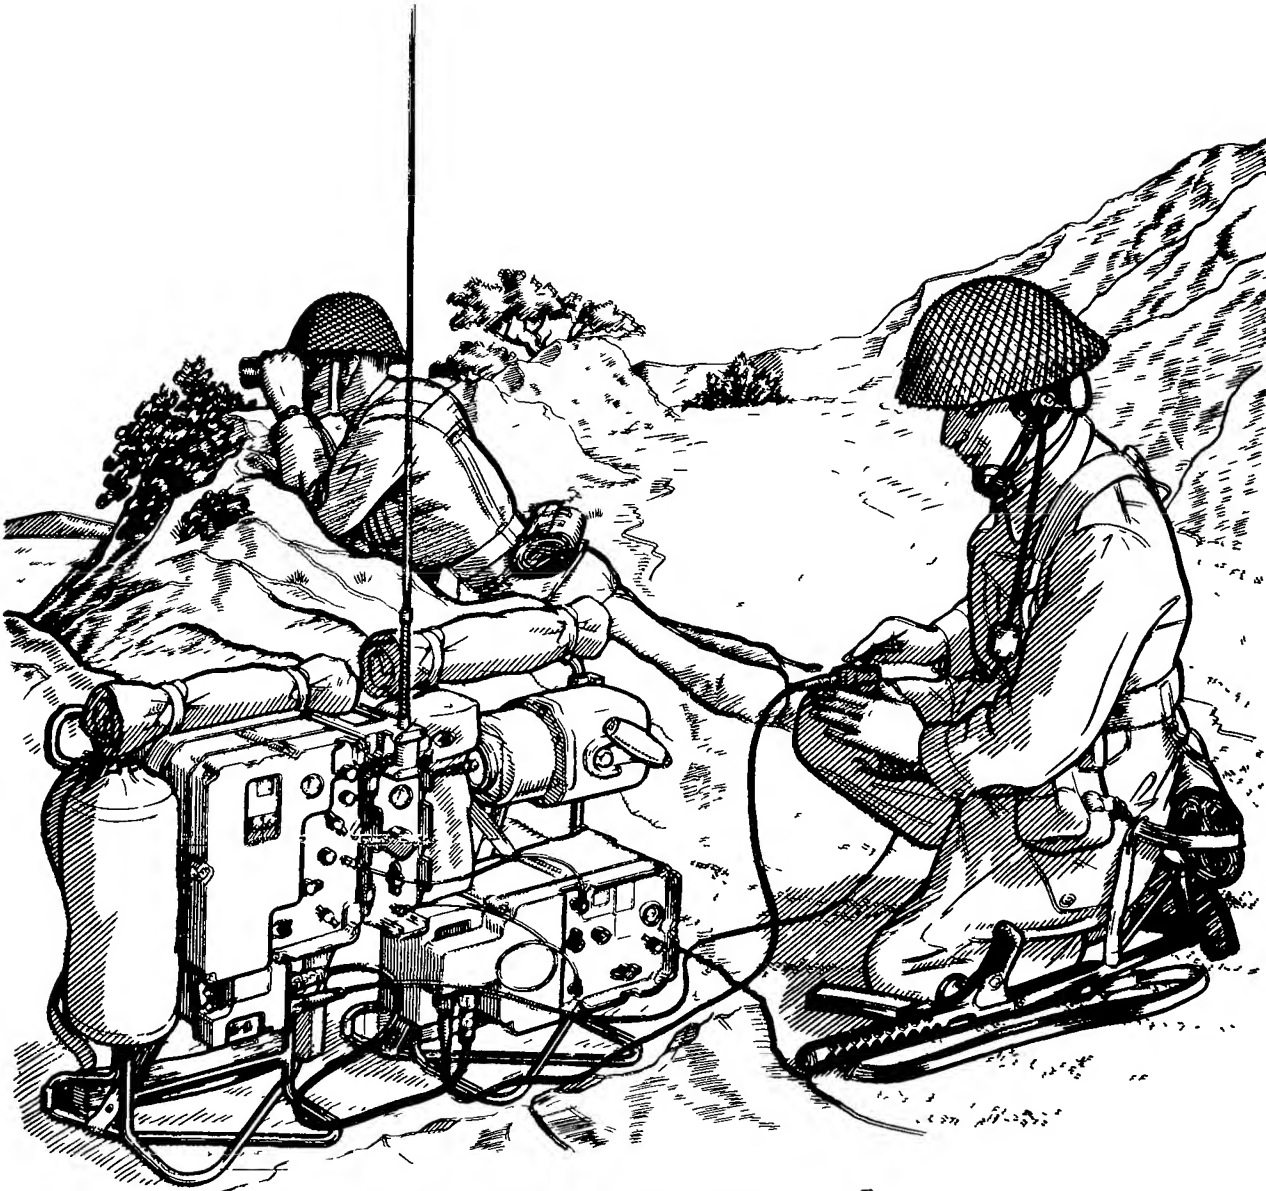

FIG. 14 HIGH POWER GROUND STATION
(1) Assembly instructions
- (a) Fig. 14 shows an HP ground station consisting of an LP manpack station and a manpack No. 2. Place the two manpack frames on the ground side by side. Ensure that there are charged batteries in both the TR A13 and the RF amplifier.
- (d) Connect the RF amplifier OUTPUT socket to the tuner RF INPUT socket. Use a cable assembly RF 2-ft. if the tuner RF is on the manpack frame as shown in fig. 14 or 50-ft. if it is set up remotely.